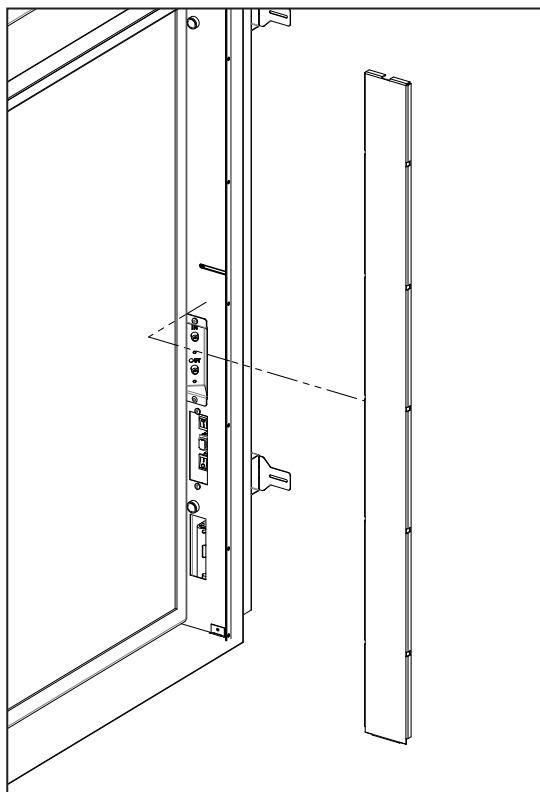

Figure 35: Side Cover Removal
3. On the inside of the cabinet there are two side covers attached via magnets. Gently pull on the side cover until they detach and set them aside (see Figure 35).